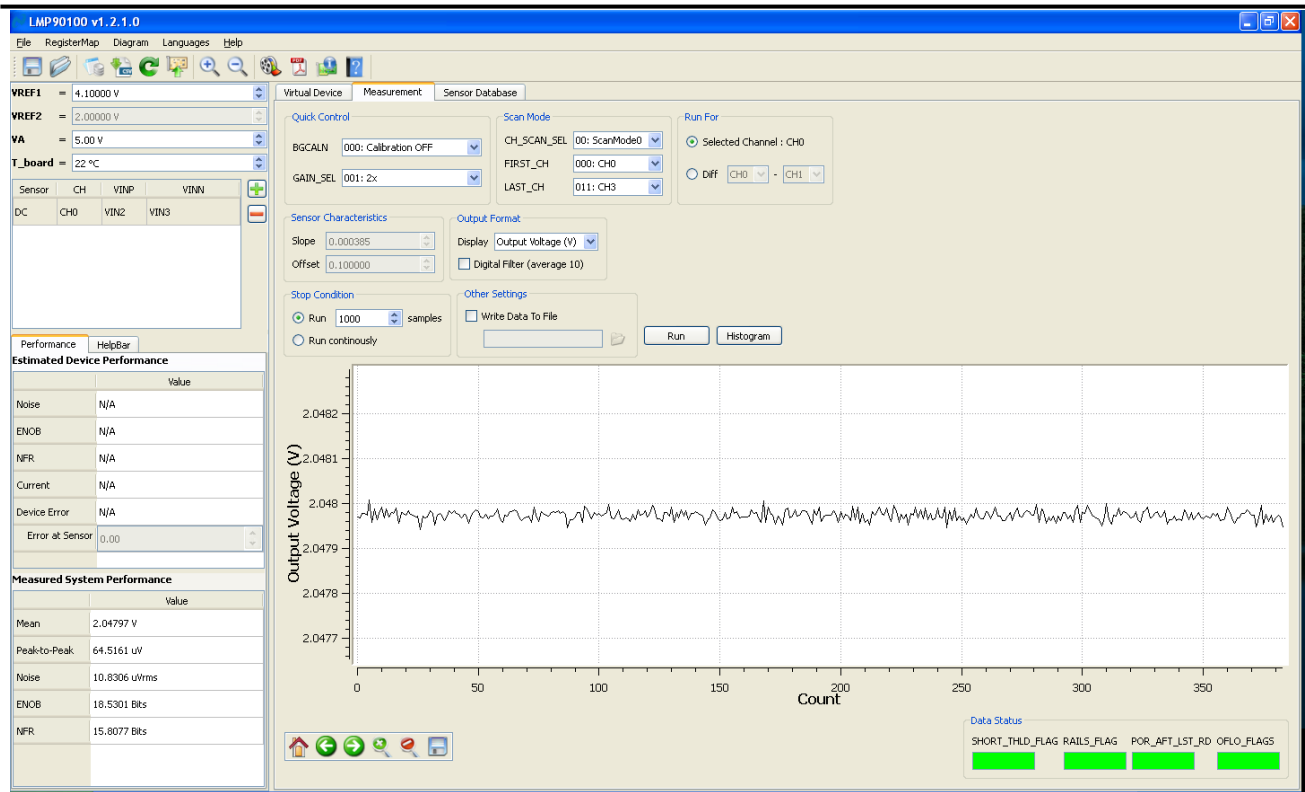

Figure 7 - Results for Example #1 - DC Reading
2. Under the **“Output Format”** field, select Display as **“Output Voltage (V)”**
4. Click on the **“Run”** button to view the output voltage results. A reading of approximately $\frac{1}{2}(VREF1)$ should be plotted as seen in Figure 7.